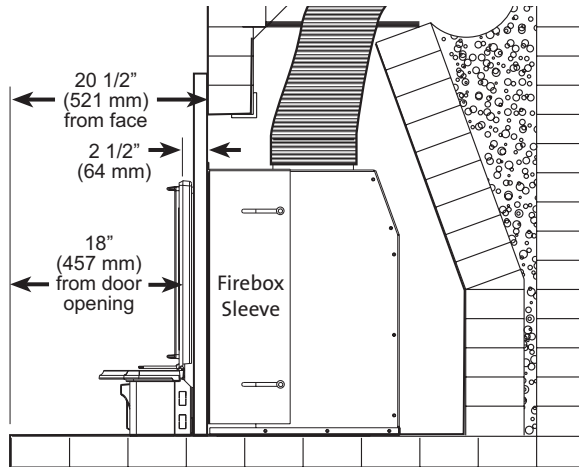

Figure 9. Sleeve adjustment results in minimum firebox extension forward of fireplace face.
- **Note** that the firebox may extend out forward of the fireplace face depending on where the cabinet sleeve has been set to accommodate flue connection. Always measure hearth protection from the final, installed position of the firebox and the door opening. See figures 9 and 10.